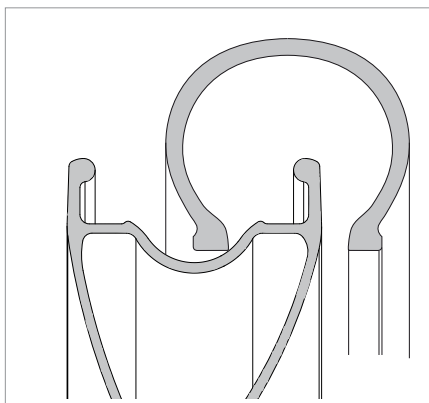

Fig.13
- Fit a tyre bead into the central channel of the rim (Fig.13).